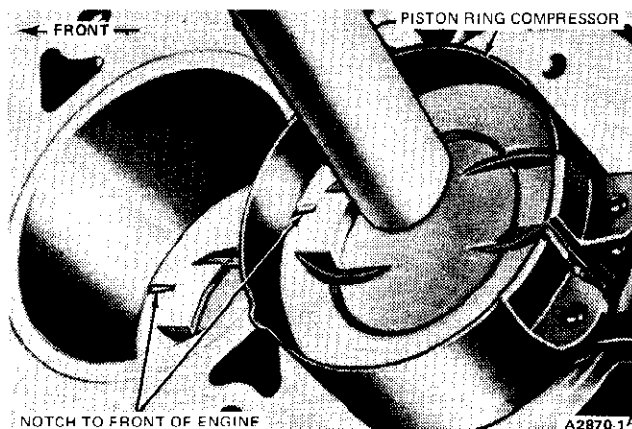

FIG. 38 Installing Piston—Typical
4. Install a piston ring compressor on the piston and push the piston in with a hammer handle until it is slightly below the top of the cylinder (Fig. 38). Be sure to guide the connecting rods to avoid damaging the crankshaft journals. **Install the piston with the indentation notch in the piston head toward the front of the engine.**